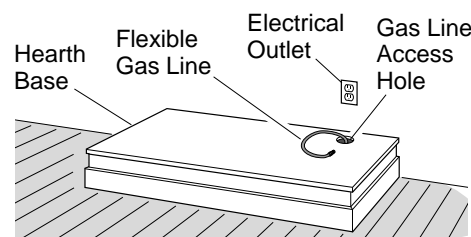

Figure 28 - Placing Hearth Base Accessory Against Wall
2. When installing blower, install a properly grounded, 120 volt three-prong electrical outlet at fireplace location if an outlet is not there. If possible, locate outlet so cabinet mantel will cover it when installed (see Figure 28).